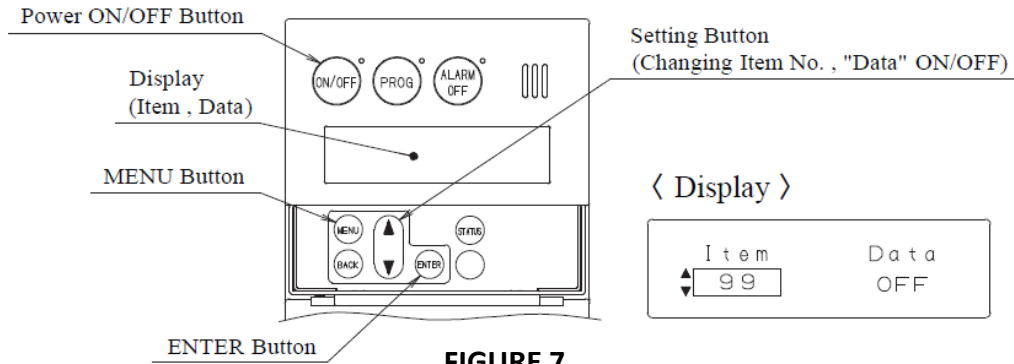

FIGURE 7
- 5) **FOR REMOTE CONTROLLER RC-9018M (Figure 7) ONLY:** After accessing the Maintenance Writer mode, use the “ENTER” button to select from “Item” or “Data”. Press the “up” and “down” buttons to change the Maintenance Writer “Item” number display and on “Data” to “ON” or “OFF”.